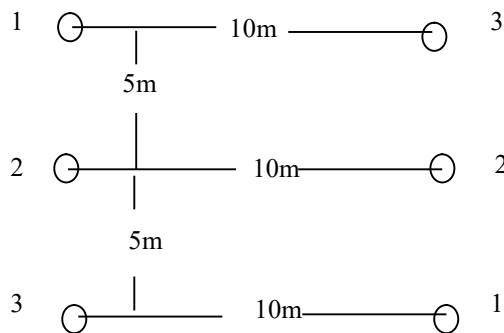

Fig.1
1. The six conductors of a double circuit three phase line are arranged as shown in Fig.1. The dia of each conductor is 1.5cm. Find the inductive and capacitive reactance to neutral and the charging current per km per phase at 66 KV and 50Hz, assuming that the line is transposed.